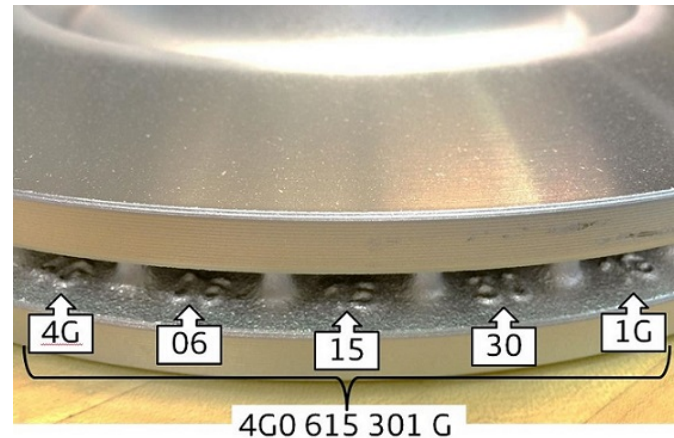

Figure 2. Front brake disc part number location.
1. Check the part number on the front discs. If part number is not 4G0615301G, then install 4G0615301G front discs (Figure 2).